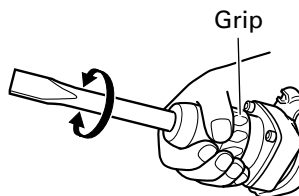
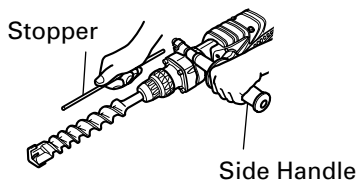

Fig. 9
Fig. 10
- (c) Turn the grip as illustrated in Fig. 9 and fix the tool to the desired working direction.
- (d) Switch the selector lever to “hammering” according to the procedures mentioned in the above item (1) and secure the position of the tool.
5. Install the stopper (Fig. 10)